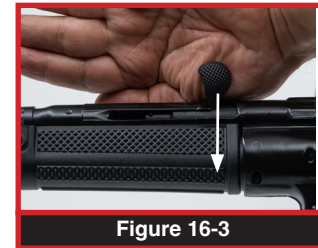

Figure 16-3
4. Charge the firearm by driving the charging handle downward with authority using your support hand (Figure 16-3). The bolt will ram forward loading a cartridge. If the bolt is forward, charge the pistol by fully retracting the charging handle and releasing it, allowing it to drive forward loading the chamber.